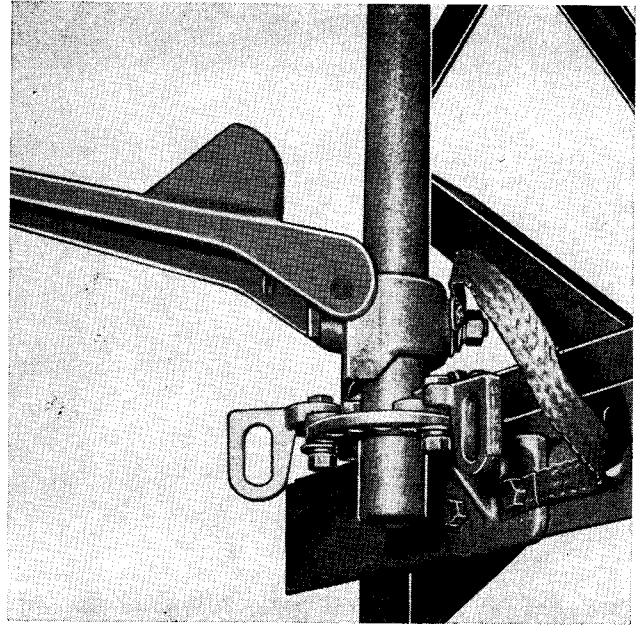

Fig. 7
(F) Connect the vertical pipe to the shaft coupling underneath the outboard bearing, if using an offset mechanism, or to the shaft coupling beneath the driven pole unit if the mechanism is direct connected. Install the pipe couplings and guide bearings if they are specified on the field erection drawings furnished with the job. Install the operating handle as shown in Fig. 7. Set the handle to the